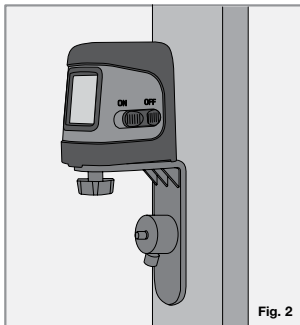

Fig. 2
- Attach the mount to a metal surface, ensuring that the mount has a strong hold before releasing your hands (Fig. 2).